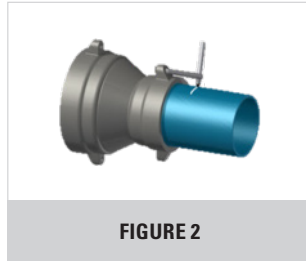

FIGURE 2
2. Assemble first restrainer on the bell end of the pipe joint and using one of the connecting rods (included) as a guide, mark the location for the spigot restrainer per Figure 2.
2. Per Figure 2, use a 7" T-head bolt (included) as a guide and mark the location on the pipe where the restrainer will be assembled.
2. Per Figure 2, use a connecting rod (included) as a guide and mark the location on the pipe where the restrainer will be assembled.
- Per Figure 2, use a 7" T-head bolt (included) as a guide and mark the location on the pipe where the restrainer will be assembled.